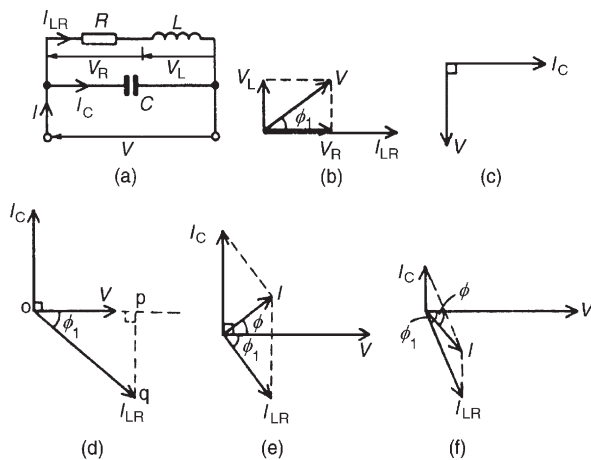

Figure 16.5
In the two-branch circuit containing capacitance  $C$  in parallel with inductance  $L$  and resistance  $R$  in series (such as a coil) shown in Fig. 16.5(a), the phasor diagram for the  $LR$  branch alone is shown in Fig. 16.5(b) and the phasor diagram for the  $C$  branch is shown alone in Fig. 16.5(c). Rotating each and superimposing on one another gives the complete phasor diagram shown in Fig. 16.5(d).
The current  $I_{LR}$  of Fig. 16.5(d) may be resolved into horizontal and vertical components. The horizontal component, shown as  $op$  is  $I_{LR} \cos \phi_1$  and the vertical component, shown as  $pq$  is  $I_{LR} \sin \phi_1$ . There are three possible conditions for this circuit:
- $I_C > I_{LR} \sin \phi_1$  (giving a supply current  $I$  leading  $V$  by angle  $\phi$ —as shown in Fig. 16.5(e))
- $I_{LR} \sin \phi > I_C$  (giving  $I$  lagging  $V$  by angle  $\phi$ —as shown in Fig. 16.5(f))
There are two methods of finding the phasor sum of currents  $I_{LR}$  and  $I_C$  in Fig. 16.5(e) and (f). These are: (i) by a scaled phasor diagram, or (ii) by resolving each current into their ‘**in-phase**’ (i.e. horizontal) and ‘**quadrature**’ (i.e. vertical) **components**, as demonstrated in Problems 6 and 7. With reference to the phasor diagrams of Fig. 16.5:
**Resonance** occurs in the two-branch network containing capacitance  $C$  in parallel with inductance  $L$  and resistance  $R$  in series (see Fig. 16.5(a)) when the quadrature (i.e. vertical) component of current  $I_{LR}$  is equal to  $I_C$ . At this condition the supply current  $I$  is in-phase with the supply voltage  $V$ .